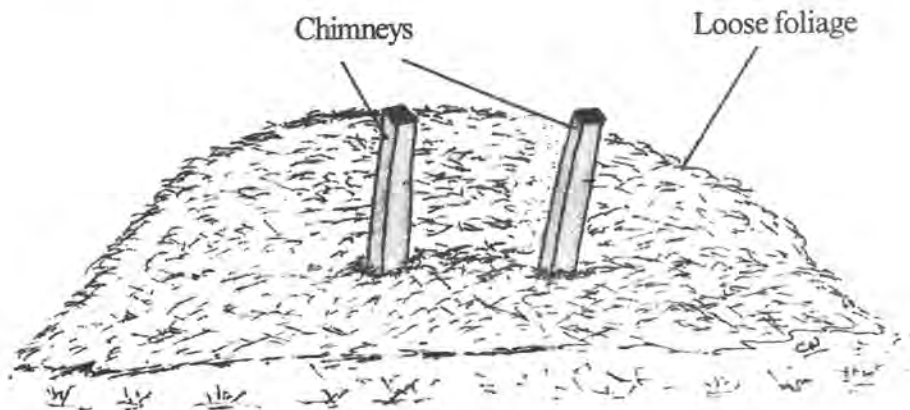

Figure 2.5: The kiln is covered with thick loose foliage
5. Cover the wood with thick loose foliage (Figure 2.5), grass or light iron sheet except for the lighting point.